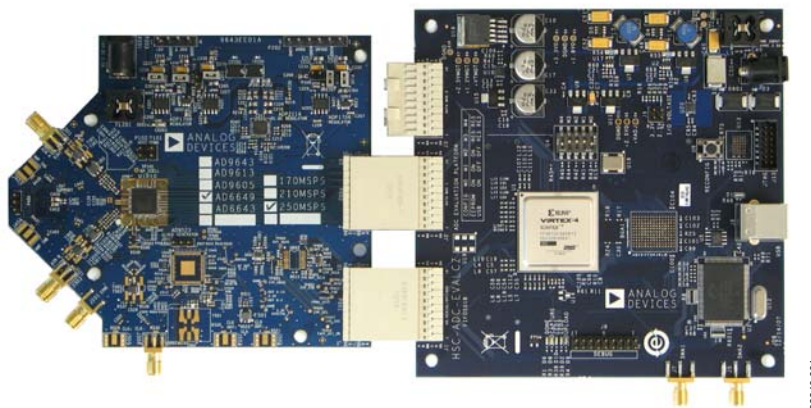
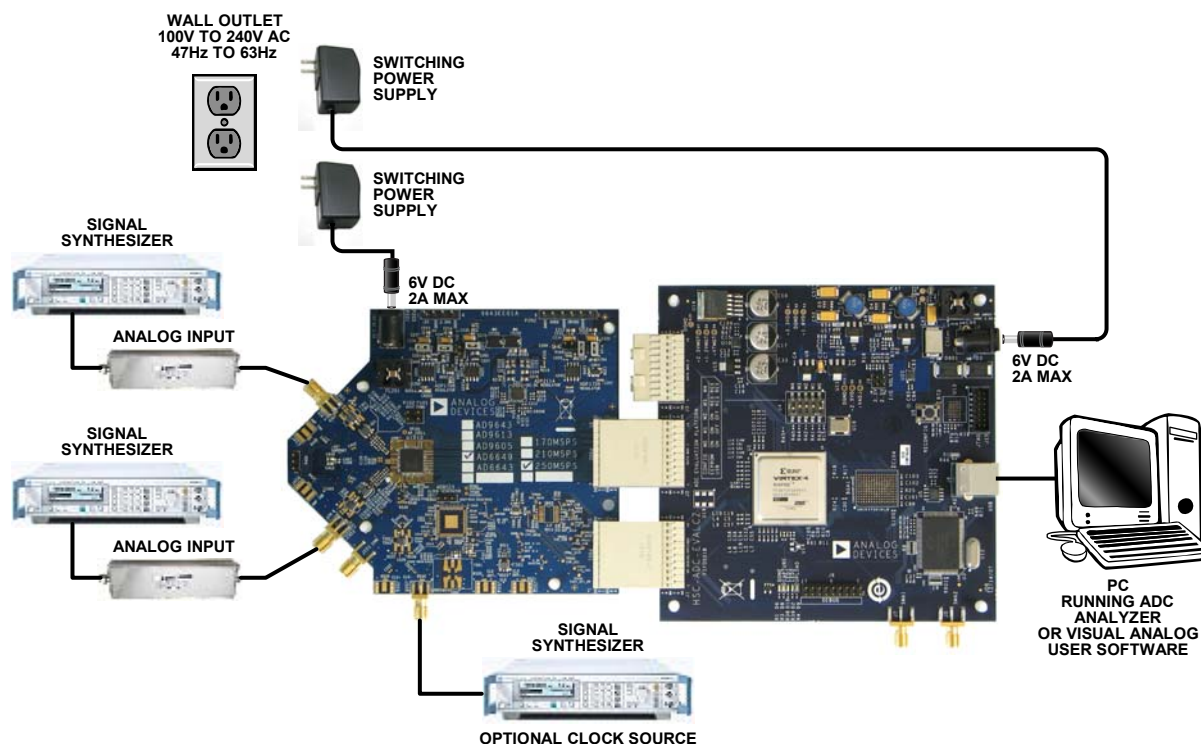

Figure 1. **AD9643, AD9613, AD6649, or AD6643** Family Evaluation Board and **HSC-ADC-EVALCZ** Data Capture Board
Figure 2. Evaluation Board Connection
The AD9643, AD9613, AD6649, or AD6643 evaluation board provides all of the support circuitry required to operate these devices in their various modes and configurations. Figure 2 shows the typical bench characterization setup used to evaluate the ac performance of the AD9643, AD9613, AD6649, or AD6643. It is critical that the signal sources used for the analog input and the clock have very low phase noise (<1 ps rms jitter) to achieve the optimum performance of the signal chain. Proper filtering of the analog input signal to remove harmonics and lower the integrated or broadband noise at the input is necessary to achieve the specified noise performance.
1. Connect the evaluation board to the data capture board, as shown in Figure 1 and Figure 2.